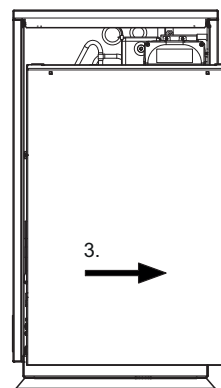

Fig. 7.3: Opening the side covering panels, work step 3
- In the tilted position, slide the panel approx. 40 mm to the right as far as it will go (3) (see Fig. 7.3)